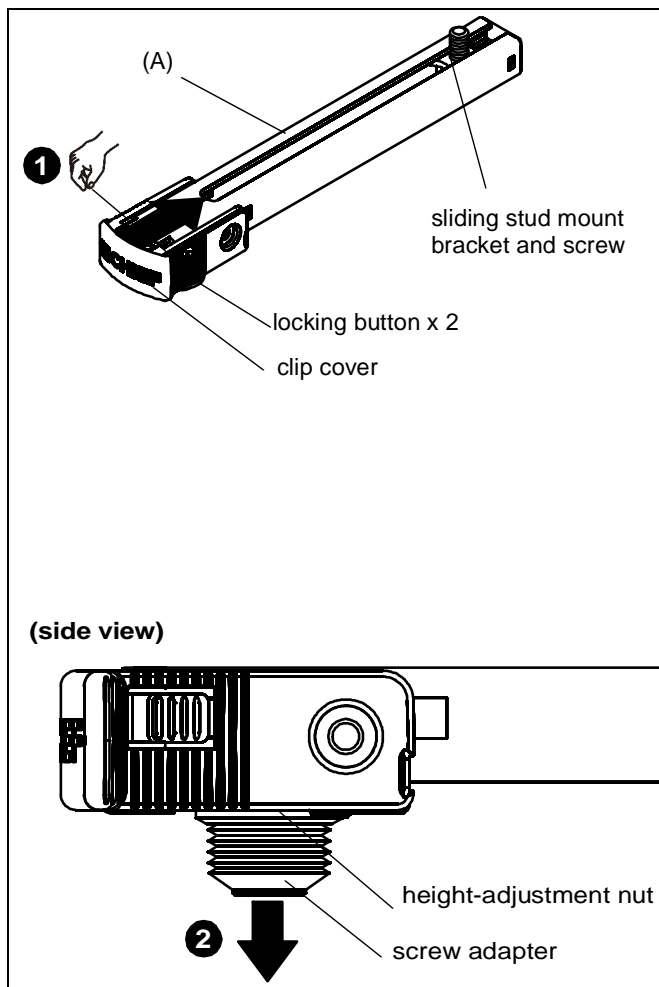

Figure 1
1. Press locking buttons on SLBLEG accessory (A) firmly and simultaneously push clip cover toward enclosed sliding stud mount bracket and screw. (See Figure 1)
2. Screw adapter and attached height-adjustment nut will be released. Set aside for later use. (See Figure 1)